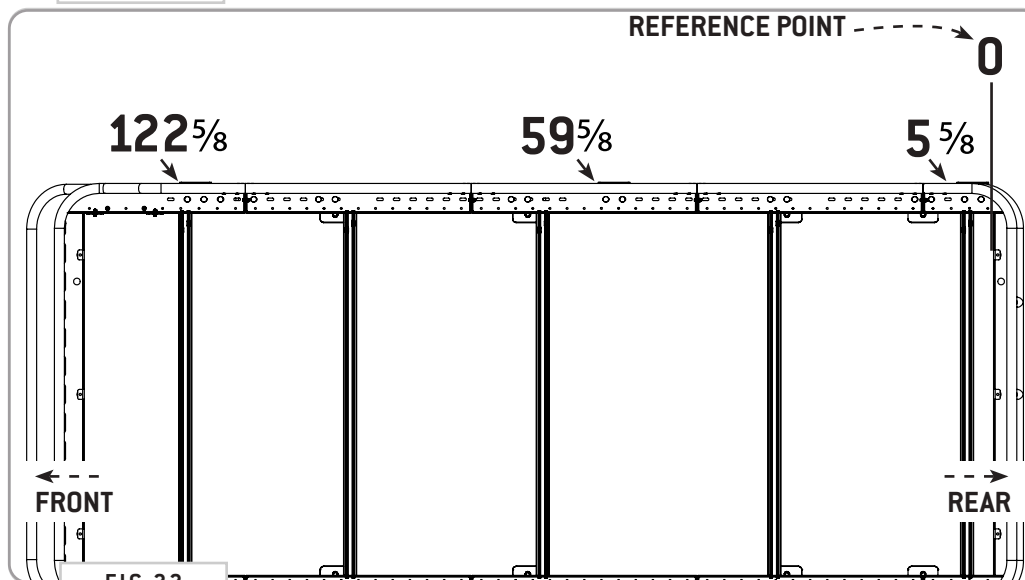

FIG 22
**8.1 F45 Awning Brackets (optional):** If you purchased a Fiamma F45 Awning with your rack, install the (3) Awning Brackets at this time using (2ea) 3/8-16" Carriage Bolts, Flat Washers and Nylon Locknuts. See FIG 22 for locations.